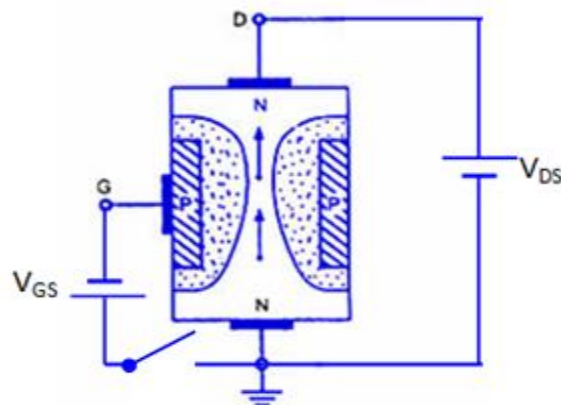

Fig. 4.4 Operation of JFET when $V_{GS}=0$
- When a voltage V_{DS} is applied between drain and source terminals and voltage on the gate is zero as shown in fig.4.4, then two pn junctions at the sides of the bar establish depletion layers.
- When a reverse voltage V_{GS} is applied between gate and source terminals, then width of depletion layer is increased which is shown in fig. 4.4.